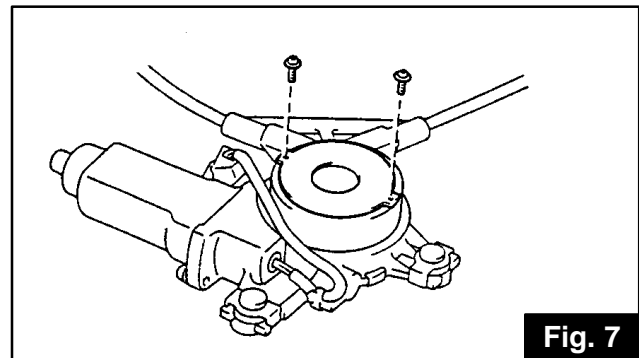

Fig. 7
- Install the original cover plate and screws **see figure 7.**